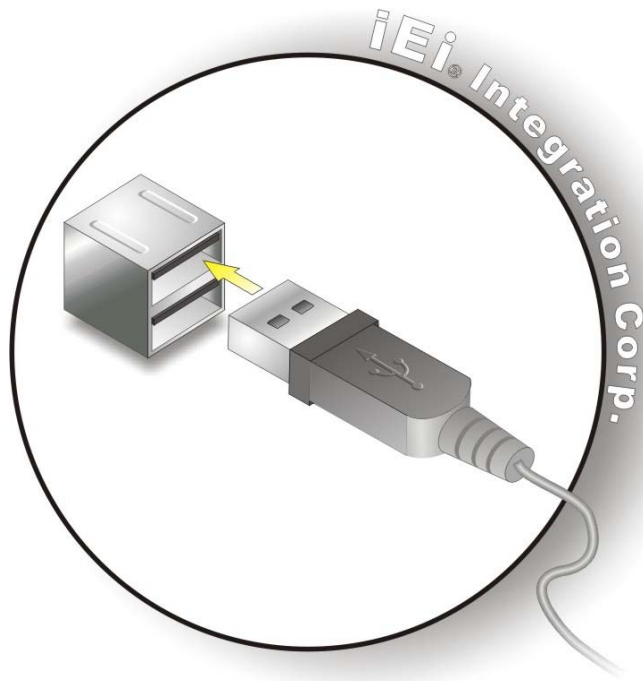

Figure 4-22: USB Connector
Step 2: Insert a USB 2.0/3.0 plug. Insert the USB 2.0/3.0 plug of a device into the USB 2.0/3.0 on the external peripheral interface. See **Figure 4-22**.